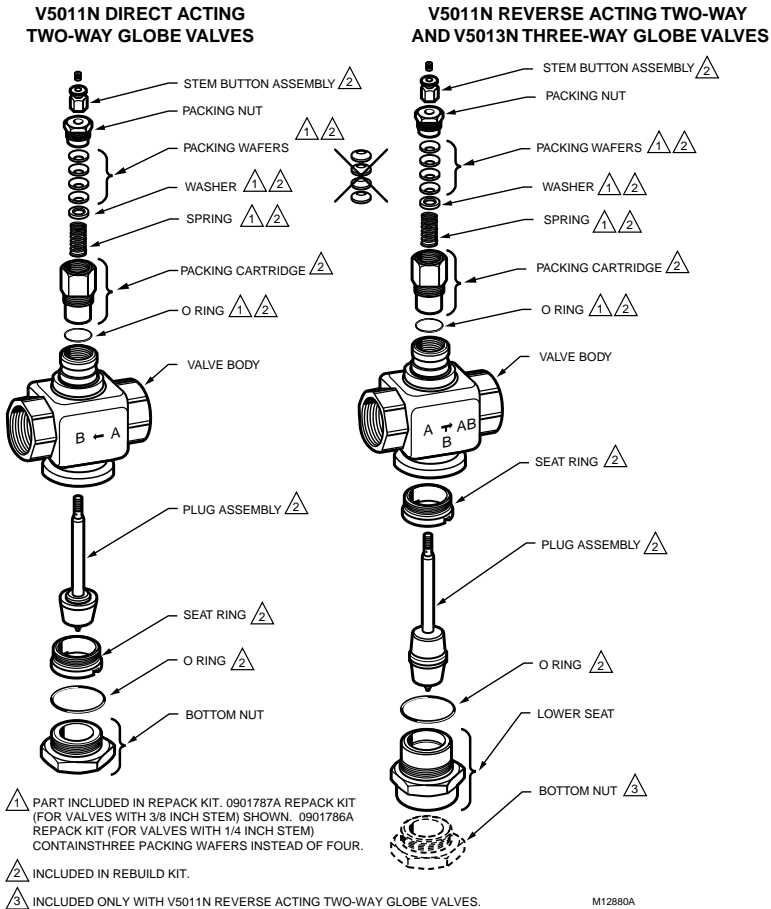

Fig. 3. V5011N and V5013N Valve Exploded Views.
^aSee Fig. 3 for detail of parts included in Rebuild Kits.
- Carefully place black packing wafers over the stem, see Fig. 3.
5. Carefully place black packing wafers over the stem, see Fig. 3.